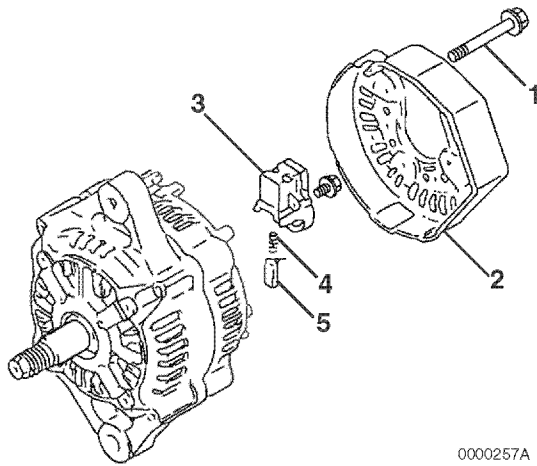

Figure 11-6
- Remove the three bolts (Figure 11-6, (1)) retaining the rear cover (Figure 11-6, (2)) to the rear frame assembly.
- Remove the brush holder (Figure 11-6, (3)). Remove the brush springs (Figure 11-6, (4)) and brushes (Figure 11-6, (5)).